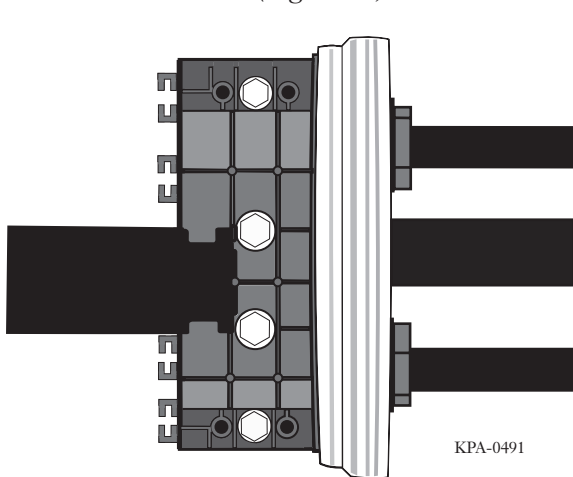

Figure 50 — Install Sealing Ring
- Step 4** Stretch the sealing ring over the channel (Figure 50).